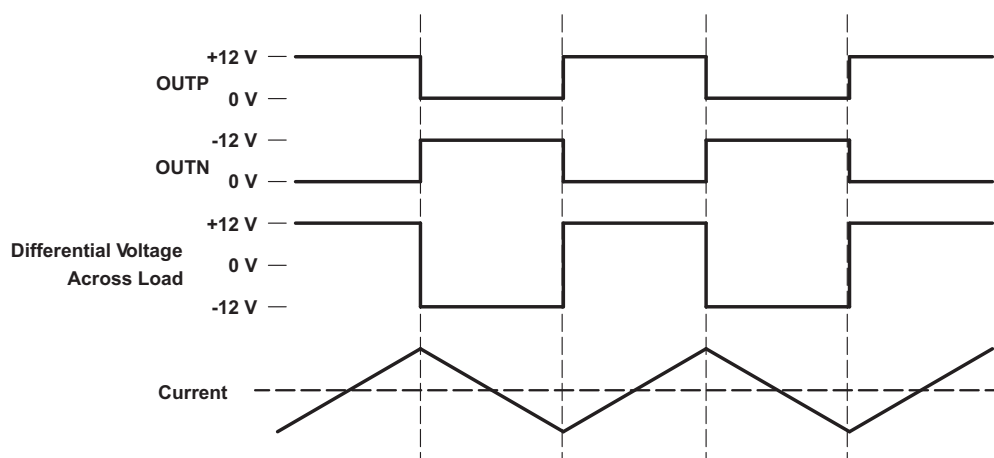

Figure 17. Traditional Class-D Modulation Scheme's Output Voltage and Current Waveforms into an Inductive Load With No Input
The TPA3120D2 operates in AD mode. There are two main configurations that may be used. For stereo operation, the TPA3120D2 should be configured in a single-ended (SE) half bridge amplifier. For mono applications, TPA3120D2 may be used as a bridge tied load (BTL) amplifier. The traditional class-D modulation scheme, which is used in the TPA3120D2 BTL configuration, has a differential output where each output is 180 degrees out of phase and changes from ground to the supply voltage, V_{CC} . Therefore, the differential prefiltered output varies between positive and negative V_{CC} , where filtered 50% duty cycle yields 0 V across the load. The traditional class-D modulation scheme with voltage and current waveforms is shown in Figure 17.